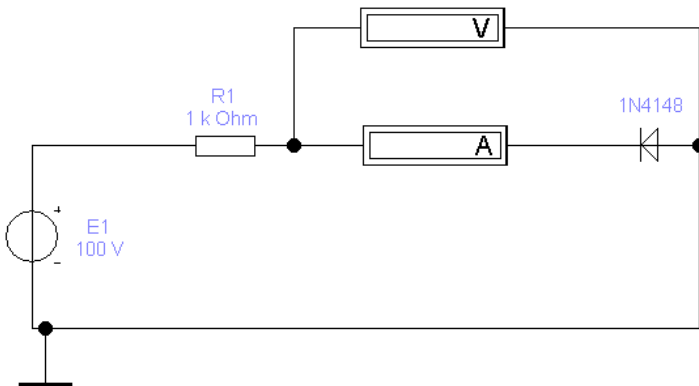

Figure 2.2 – Scheme of the study of the reverse branch of the VAC diode
6. Collect the diagram shown in fig. 2.2.